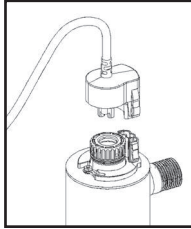
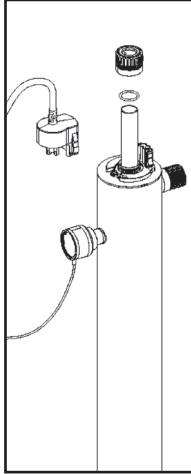
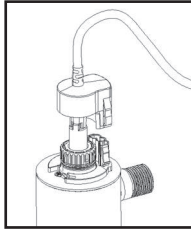

FIGURE 2A
FIGURE 2B
FIGURE 2C
2. Disconnect main power source and allow the unit to power down for 30 sec. Remove the lamp connector by squeezing the plastic locking tabs on the side of the connector. Remove connector and lamp from the reactor chamber and lamp connector base. Separate the lamp from the connector (Figure 2A). Do not twist the lamp from the connector, simply slide the two apart. Avoid touching the lamp on the glass portion. Handling the lamp at the ceramic ends is acceptable, however if you must touch the lamp glass, please use gloves or a soft cloth. Fully remove the lamp from the reactor chamber being careful not to angle the lamp as it is removed from the chamber. If the lamp is removed on an angle, pressure will be applied on the inside of the quartz sleeve, causing the sleeve to fracture.
3. To install a new lamp, first remove the lamp from its protective packaging, again being careful not to touch the lamp glass itself. Carefully insert the lamp into the reactor vessel (actually inside the quartz sleeve) (Figure 2B). Insert the lamp fully into the chamber leaving about two inches of the lamp protruding from the chamber. Next, attach the connector to the UV lamp (Figure 2A). The connector is "keyed" and will only allow correct installation in one position. Ensure the connector is fully seated onto the UV lamp (Figure 2C).